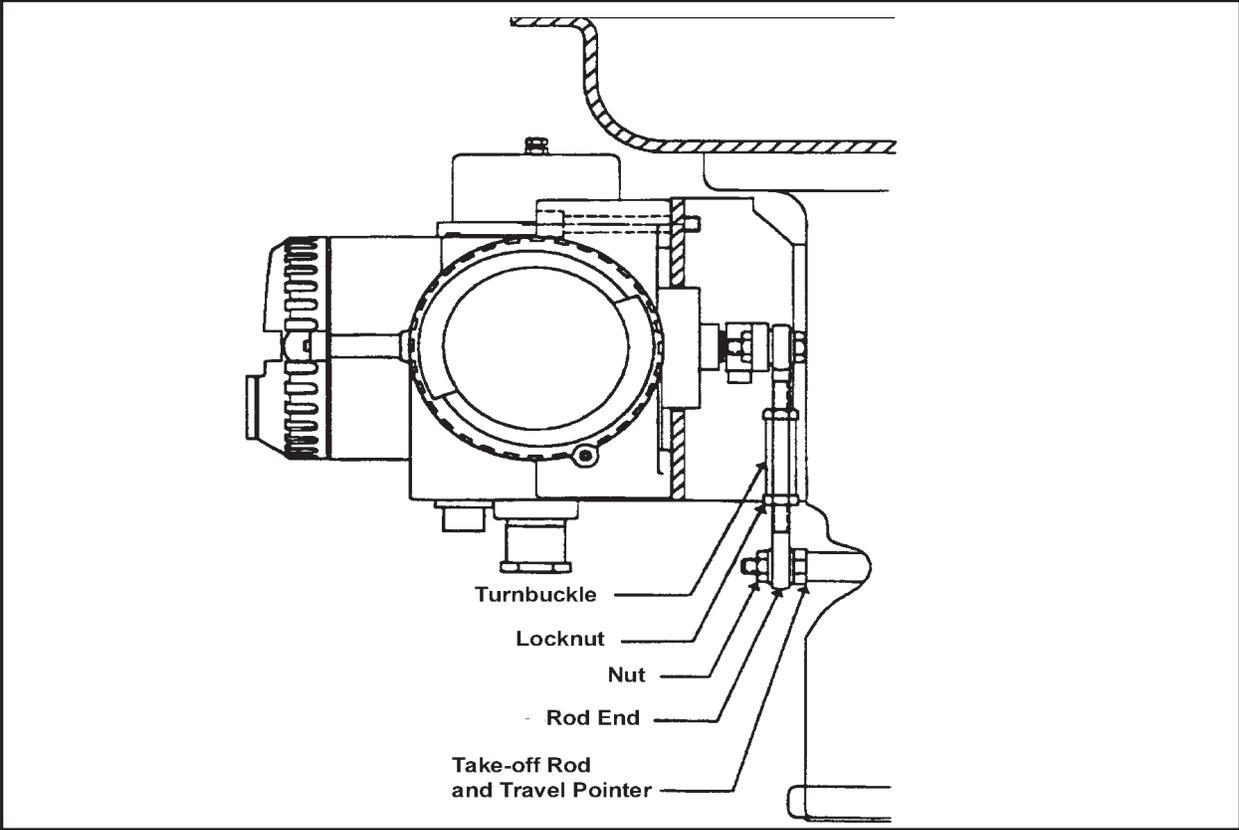

Figure 19. Side View of SVI Mounted on a Reciprocating Valve
5. Screw the take-off rod to the actuator stem connector, refer to Figure 19. Ensure that the travel pointer is correctly positioned.
7. Connect turnbuckle and lock nuts to each rod end. Refer to Figure 19. Turnbuckle length is a function of actuator size. Verify proper length per following: #6 and #10 Actuators, length = 1.25". #16 Actuator, length = 2.90". #23 Actuator, length = 5.25".
The linkage design is usually made up of two rod ends. One each attached to the SVI lever and the valve stem. A turnbuckle is used to attach the rod ends together and for final adjustment. Table 5 may be used as a guide to determine the proper linkage lengths. Lock nuts should be provided to ensure that the set length of the linkage is not changed. See Figure 19 for typical mounting on a reciprocating actuator.